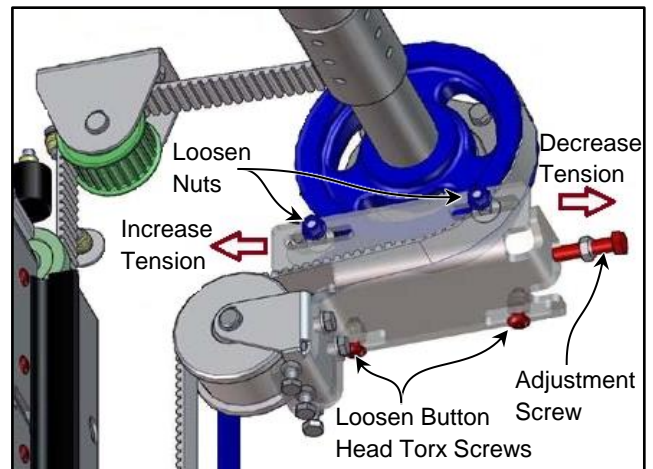

Figure 63
5. Release the tension from the secondary drive belt by moving the trolley bracket at the top of the side column away from the wall. (See Figure 63)